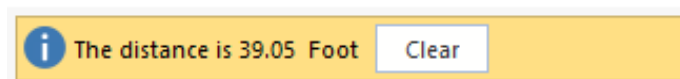

Figure 10-29
- In the **Message Bar** the program will display the measurement between these two points which is 39.05' as shown in **FIGURE 10-29**.